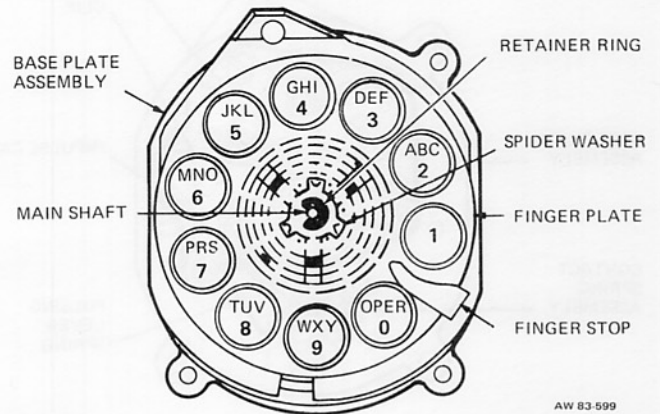

Figure 4: Front View of Dial (Partially Assembled)
- (b) Remove the retainer ring from the main shaft. (See Figure 4.)
(g) Position the finger stop on the main shaft so the arm extends between the numbers zero and one. (See Figure 4.)
(k) Press the retainer ring onto the main shaft. (See Figure 4.)